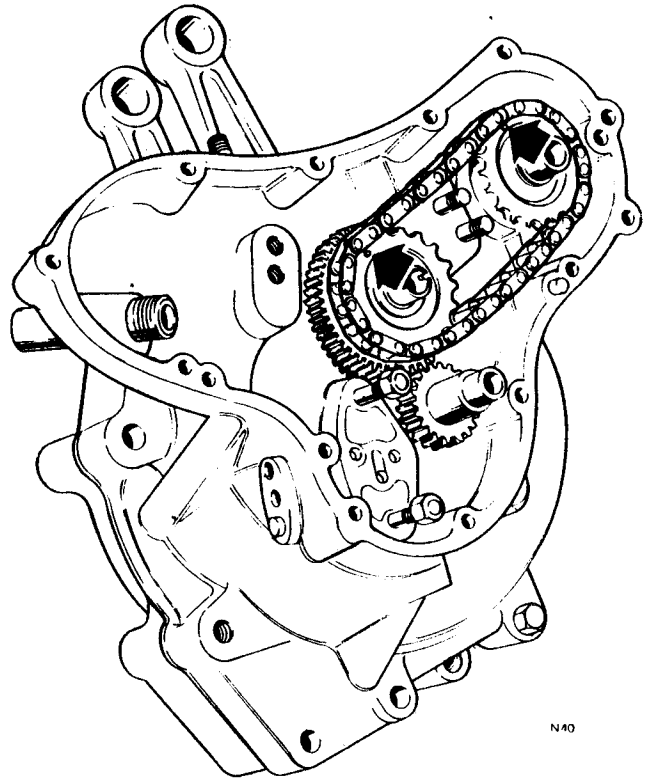

Fig. C37 Assembly of timing chain and sprockets. Note arrows
- 5 Take the intermediate gear sprocket, the camshaft sprocket and cam chain, assembling as shown in *Fig. C37*. For correct timing the timing marks must be 10 rollers apart on the chain as shown in the illustration.